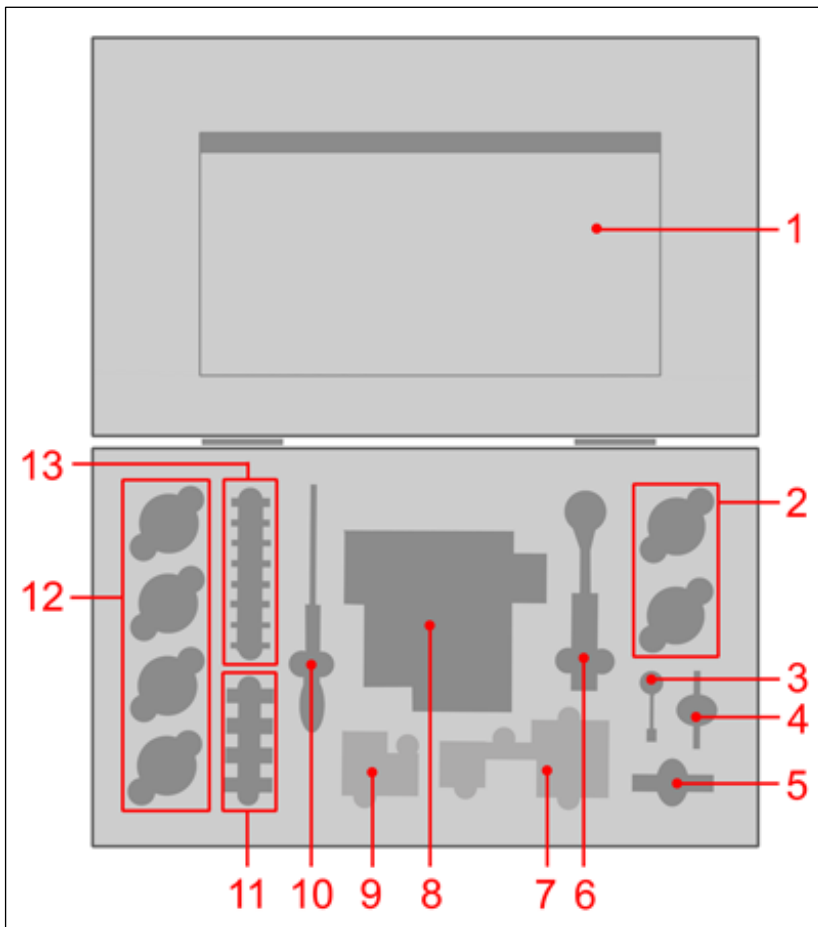
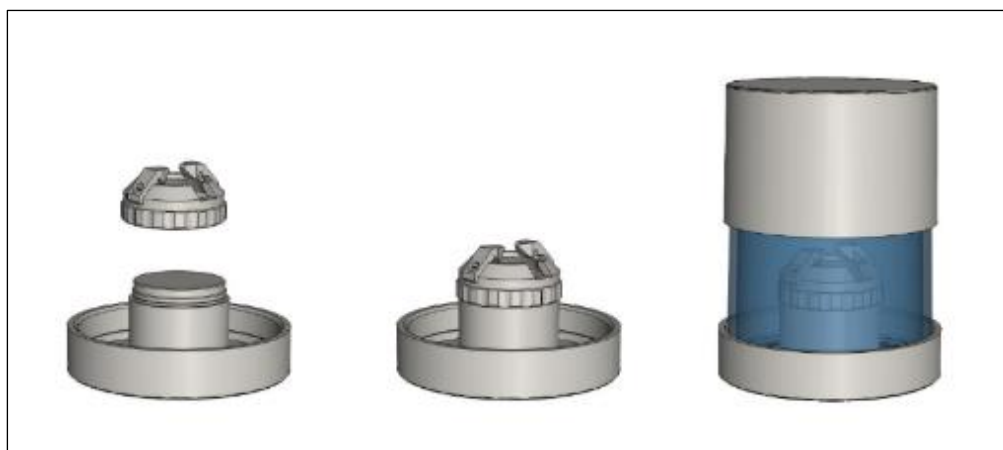

Figure 65: Neutral position of the dummy plugs (1) and (2). Slot (3)
Figure 72: Mirror cap in the container
You can verify the system properties using the standard specimen. The standard specimen is delivered in the DLS case (Figure 65, position 11) or you can create the standard specimen yourself.
You will find an overview of the DLS case in Figure 65.
The mirror cap (Figure 65, position 2) and the detection objective (Figure 65, position 12) are stored in separate containers in the DLS case. For a DLS experiment, the mirror cap with the detection objective must be screwed into place.
Always store the cleaned mirror cap in the mirror cap container (Figure 72). To do so, screw the clean, dry mirror cap into the container and close the container. You can securely store the container with the mirror cap in the DLS case (Figure 65, position 2).
19. Remove the filter holder from the DLS case (see Figure 65, item 6) and use it to insert the desired DLS filters into the corresponding filter position (filter positions 1 to 4). The DLS filters are carried on the filter holder using magnets and can be inserted into the corresponding filter position in the filter wheel in this manner.